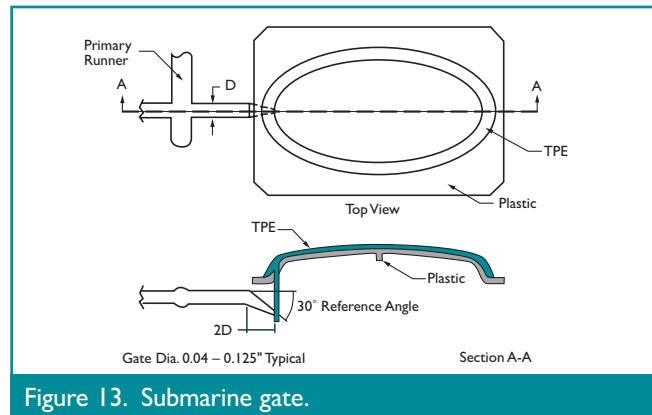

Figure 13. Submarine gate.
**Figure 13** shows a typical design of a submarine gate.